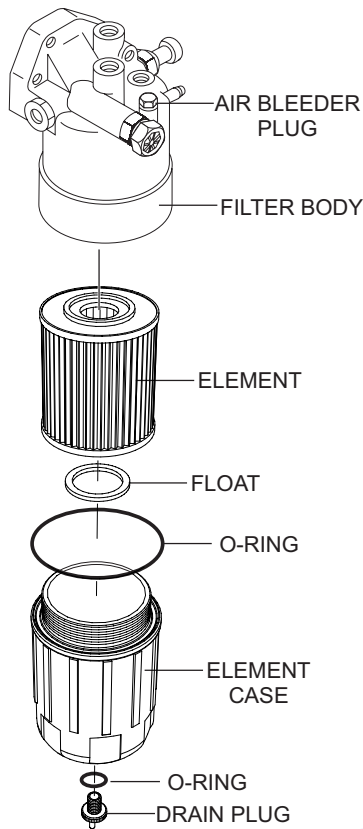

**Figure 64. Draining The Fuel Filter**
1. Loosen the **air bleeder plug** (Figure 64) on the fuel filter body.